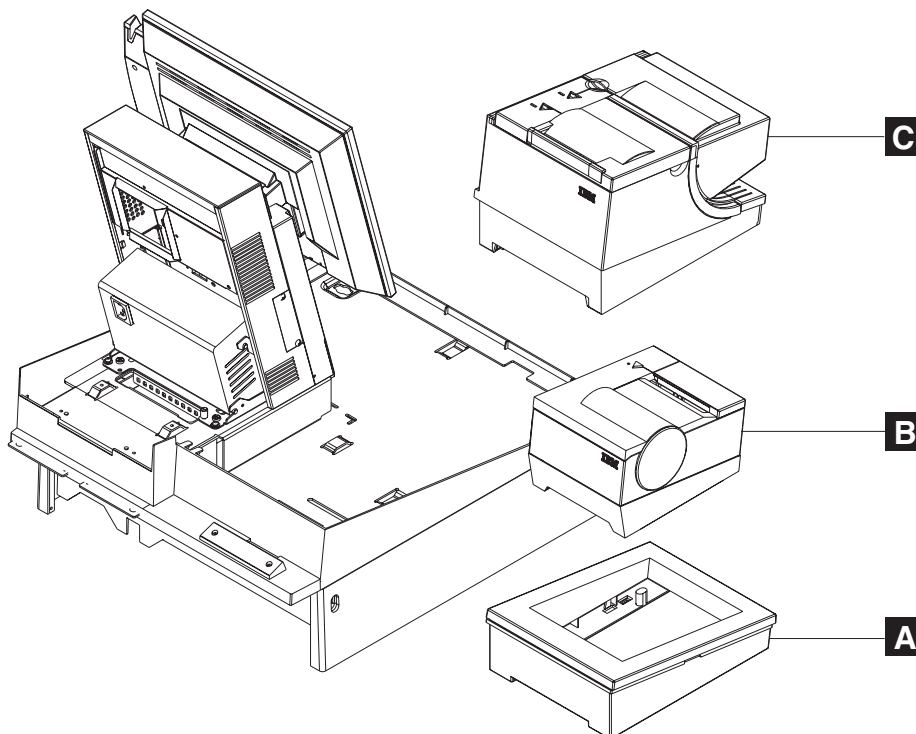

Figure 70. Removing the 4610 printer from the full-size keyboard integration tray
- b. For the **4610 SureMark Models TG3, TG4 and TG5 printers C**, lift the printer up and off the keyboard integration tray, as show in Figure 70.